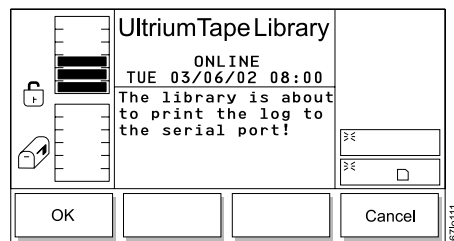

Figure 114. Print Dialog
- To print the command log, press the button below the **Print** softkey. The Print Dialog displays (see Figure 114). Press the button below the **OK** softkey to send the log to your printer. After the operation is complete, the screen refreshes. To return to the Logs Submenu, press the button below the **Cancel** softkey.